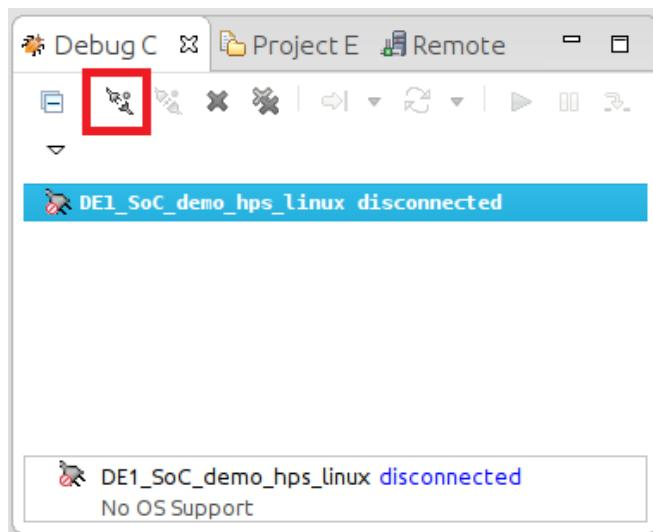

Figure 13-28. Debug Control View
88. In the "Debug Control" view, click on the "DE1_SoC_demo_hps_linux" entry, then click on the "Connect to Target" button, as shown on Figure 13-28. The debugger will start an SSH connection to the linux distribution running on the DE1-SoC and will automatically transfer our binary file and wait at our application's "main()" function. If you are prompted to log in, then log in with the **ROOT** user and password.